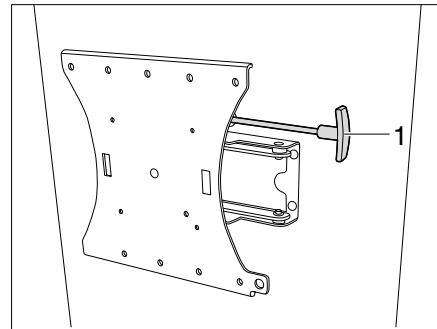

Fig. 138 Holder with jointed arm (variant 2)
- Pull the lever (Fig. 138,1) to release the flat screen from the latch.
- Push the lever (Fig. 138,1) back in to lock.